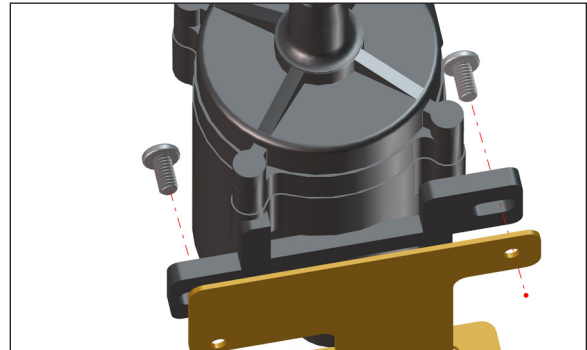

Figure 69 - Step 1 Mount pump to bracket
1. Mount new pump to the new pump bracket using two #8-32 x 5/16" Phillips screws (Figure 69).